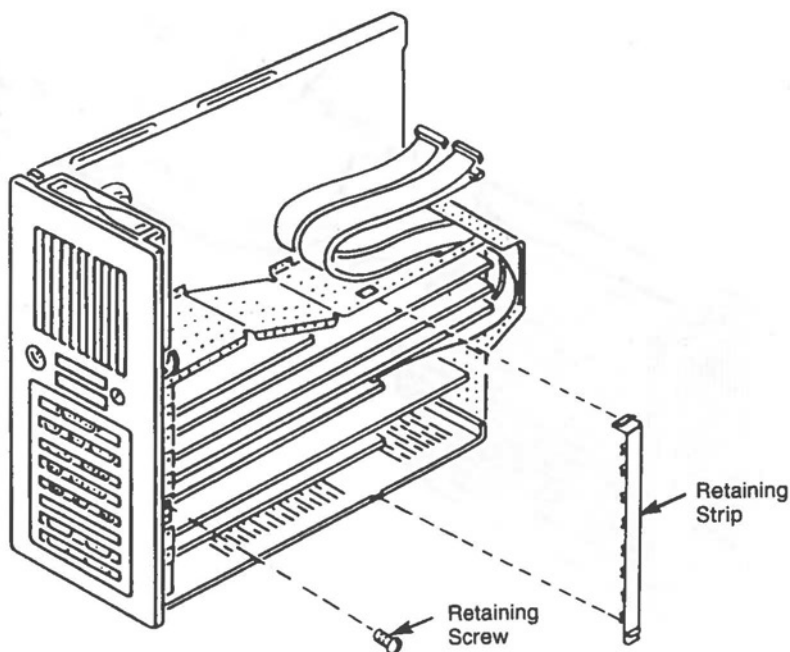

Figure 3-5 Plastic Strip
2. Remove the screw from an empty support bracket of the card rack assembly (refer to Figure 3-5).
3. Remove the plastic retaining strip (refer to Figure 3-5).